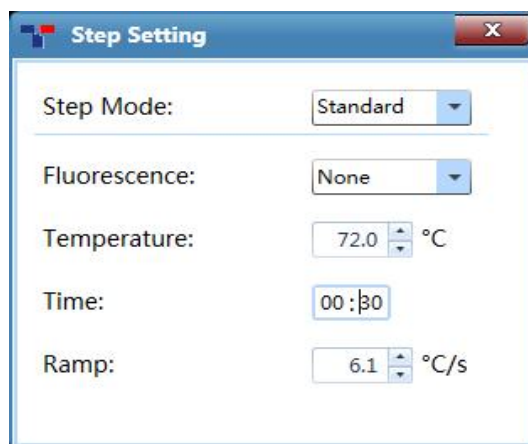

Figure D-5.6a. Step Setting Dialog Box – Standard Step Mode
5. **Step Setting:** double click any step in the step list or in temperature program area to edit the selected step, the application software will pop up the **Step Setting** dialog box for user to edit the selected step, as shown in figure D-5.6a.
- I. **Standard Step Mode:** user can set the *Temperature*, *Time*, *Ramp* for the standard step and decide whether to read its *Fluorescence*, as shown in figure D-5.6a.